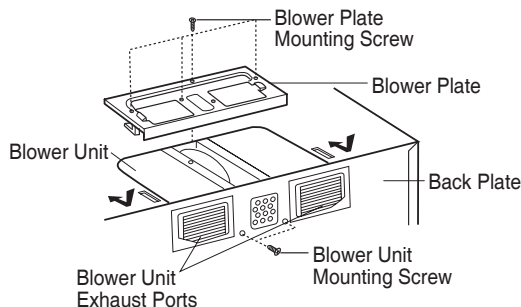

Figure 18
6. Reattach the blower plate to microwave oven so the exhaust ports and blower plate opening are aligned. Attach with one blower unit mounting screw and then one or several blower plate mounting screw(s). See Figure 18.